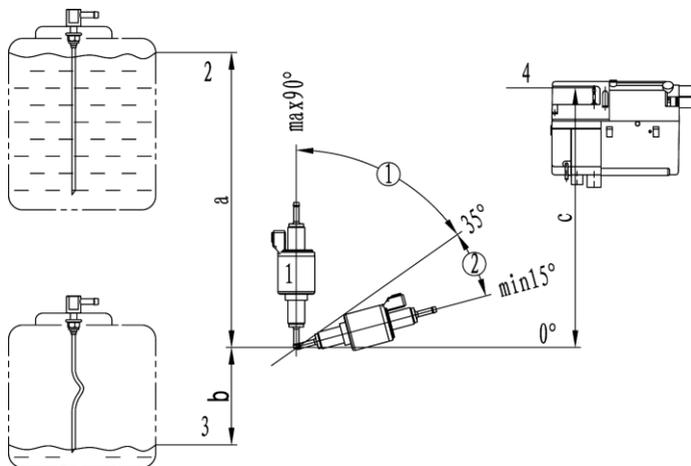

Fig. 8
4.5.1 The fuel pump shall be fixed in automobile with a fuel pump clamp with protective rubber cover. The outlet of the fuel pump shall tilt upwards. The tilt angle can be selected from the range of  $15^{\circ}\sim 35^{\circ}$  (as shown in Fig. 8). When conditions permit, the fuel pipe between the fuel pump and the heater shall go up gradually.